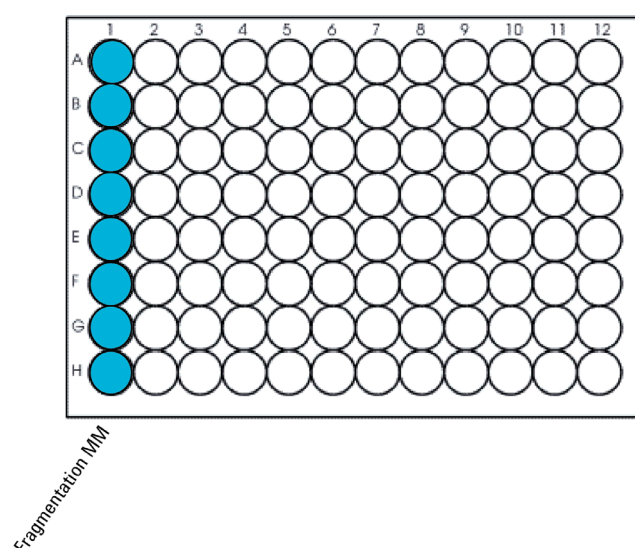

Figure 3 Configuration of the **Eppendorf twin.tec** master mix source plate for protocol EnzFrag_XT_HS2_ILM
- 9 Prepare the **Eppendorf twin.tec** master mix source plate for the run as indicated in **Table 23**. Add the indicated volume of the master mix to all wells of the indicated column of the Eppendorf plate. Keep the master mix on ice during the aliquoting steps. The final configuration of the master mix source plate is shown in **Figure 3**.